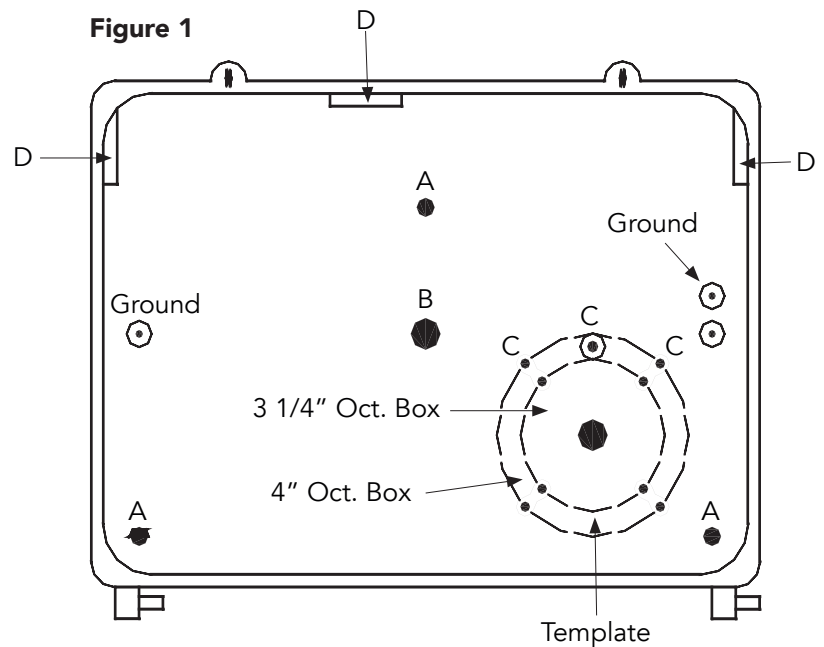

Figure 2
9. Splice power connections as seen in Figure 2.